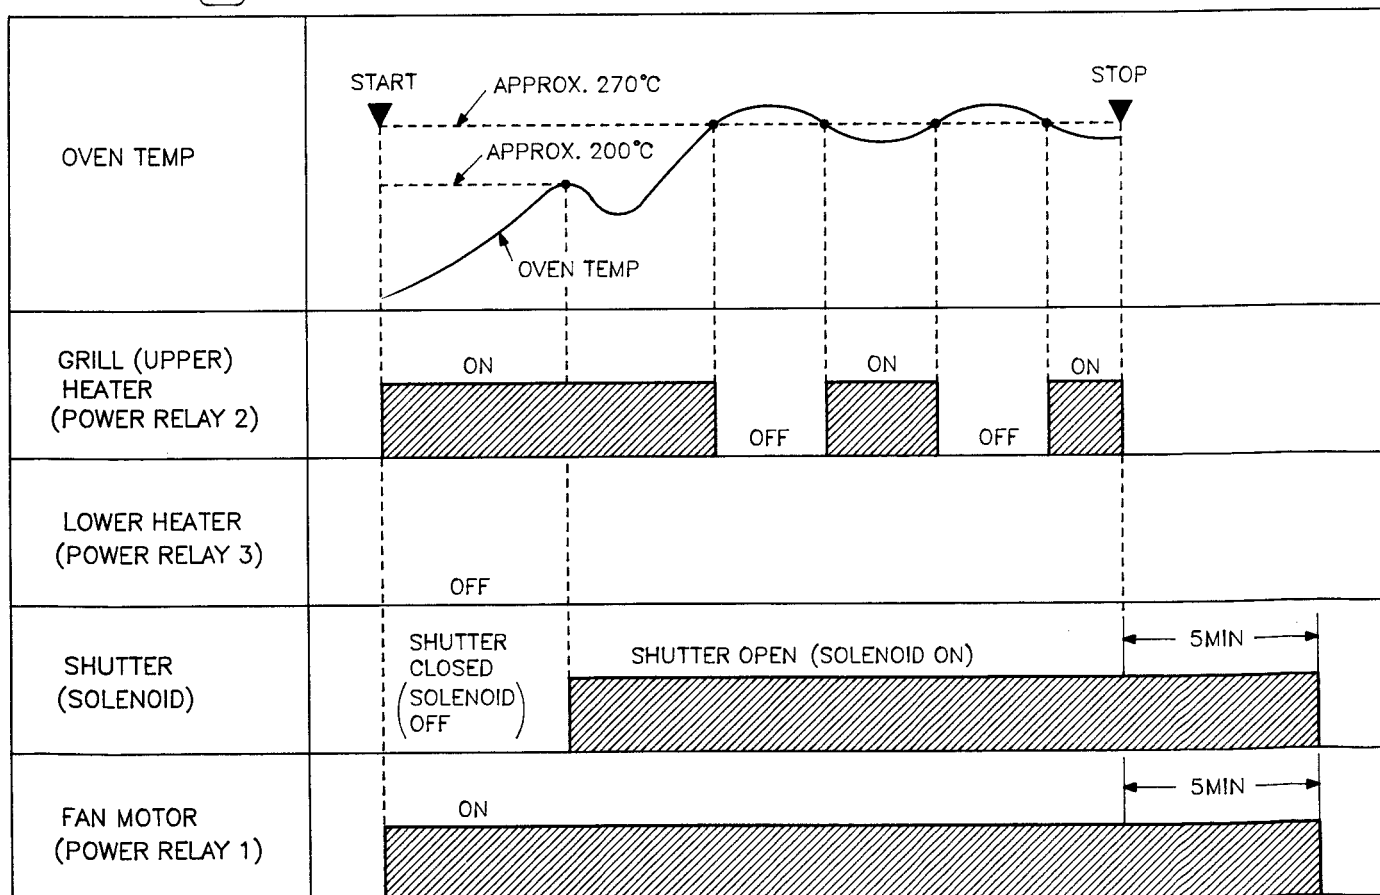

Fig. 10
- (D) After the grill heater turns off, the oven temperature will continue increasing a while and then decrease as shown in **Fig. 10**. When the oven temperature drops below the preprogrammed temperature, the digital programmer circuit senses the oven temperature and starts supplying an 18V DC to the coil of power relay 2 again.
- (E) When 30 minutes have elapsed, the digital programmer circuit starts cycling to supply an 18V DC to power relay 2 at a rate of two minutes OFF and one minute ON until cooking programme is completed.